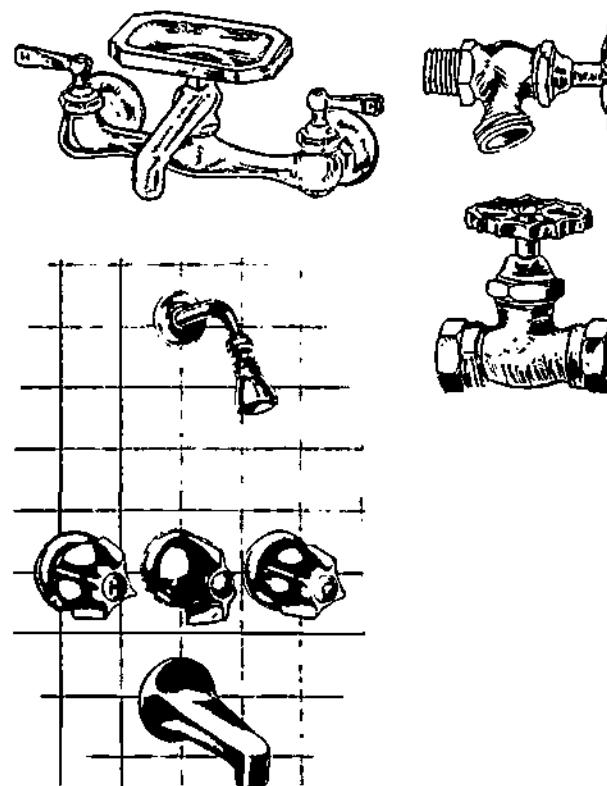

Figure 23-5. Various Types of Compression Stops
9. The above procedure also applies to repairing similar types of compression stops such as those shown in Figure 23-5.